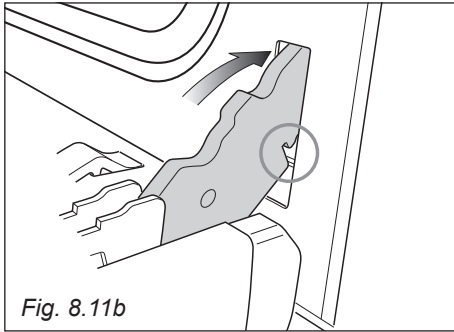

Fig. 8.11b
- Insert the hinge tongues into the slots, making sure that the groove drops into place as shown in the fig. 8.11b.